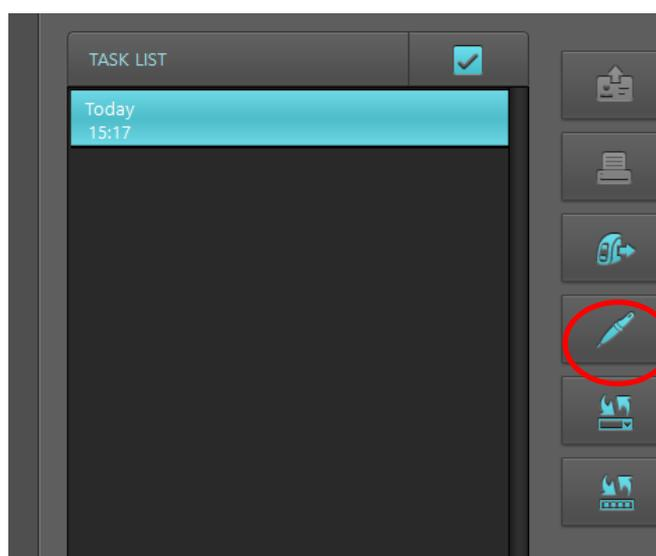

Figure 6.29 Intra Oral Camera
4. Click the "Intra Oral Camera" button as shown in Figure 6.29.